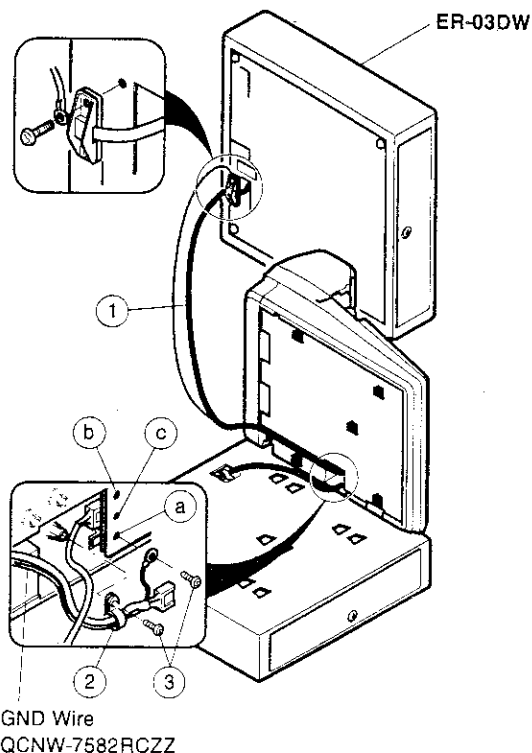

Fig. 4
- 1) The remote drawer cable ① and grounding wire must be secured using the cable clamp ② and the screw ③ (XUBSD30P08000) comes with the product. (Fig. 4)
- 2) Put the grounding wire of the remote drawer into the screw hole in the lower cabinet and fasten it with the screw ③. (Use the holes ① and ② in the illustration. Never use the hole ③. If the third and fourth drawers are to be added, share the holes ① and ② among the drawers.) (Fig.4)
- 3) To install the ground wire, tighten the wire holder together on the rear surface of the ER-03DW. (Fig.4)